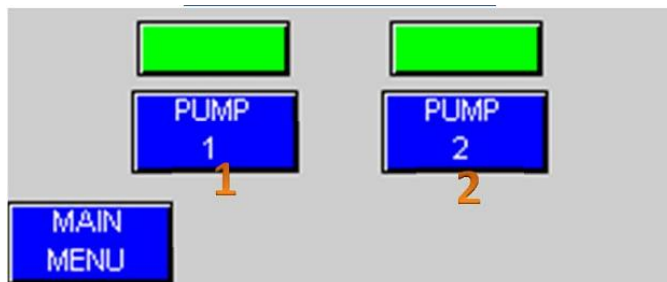

Figure 5. Pump Menu Screen
4. **Pump Menu.** Displays the "Pump Menu Screen", Figure 5.